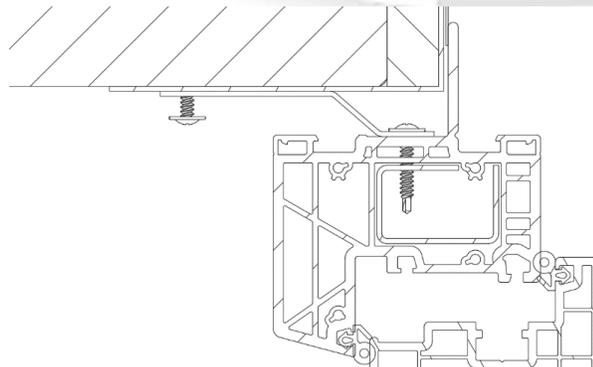

Figure 23: Door with sidelite head fastening detail with strap anchor.
- l) See figure 23 utilizing fasteners as specified in section 5.1, B.